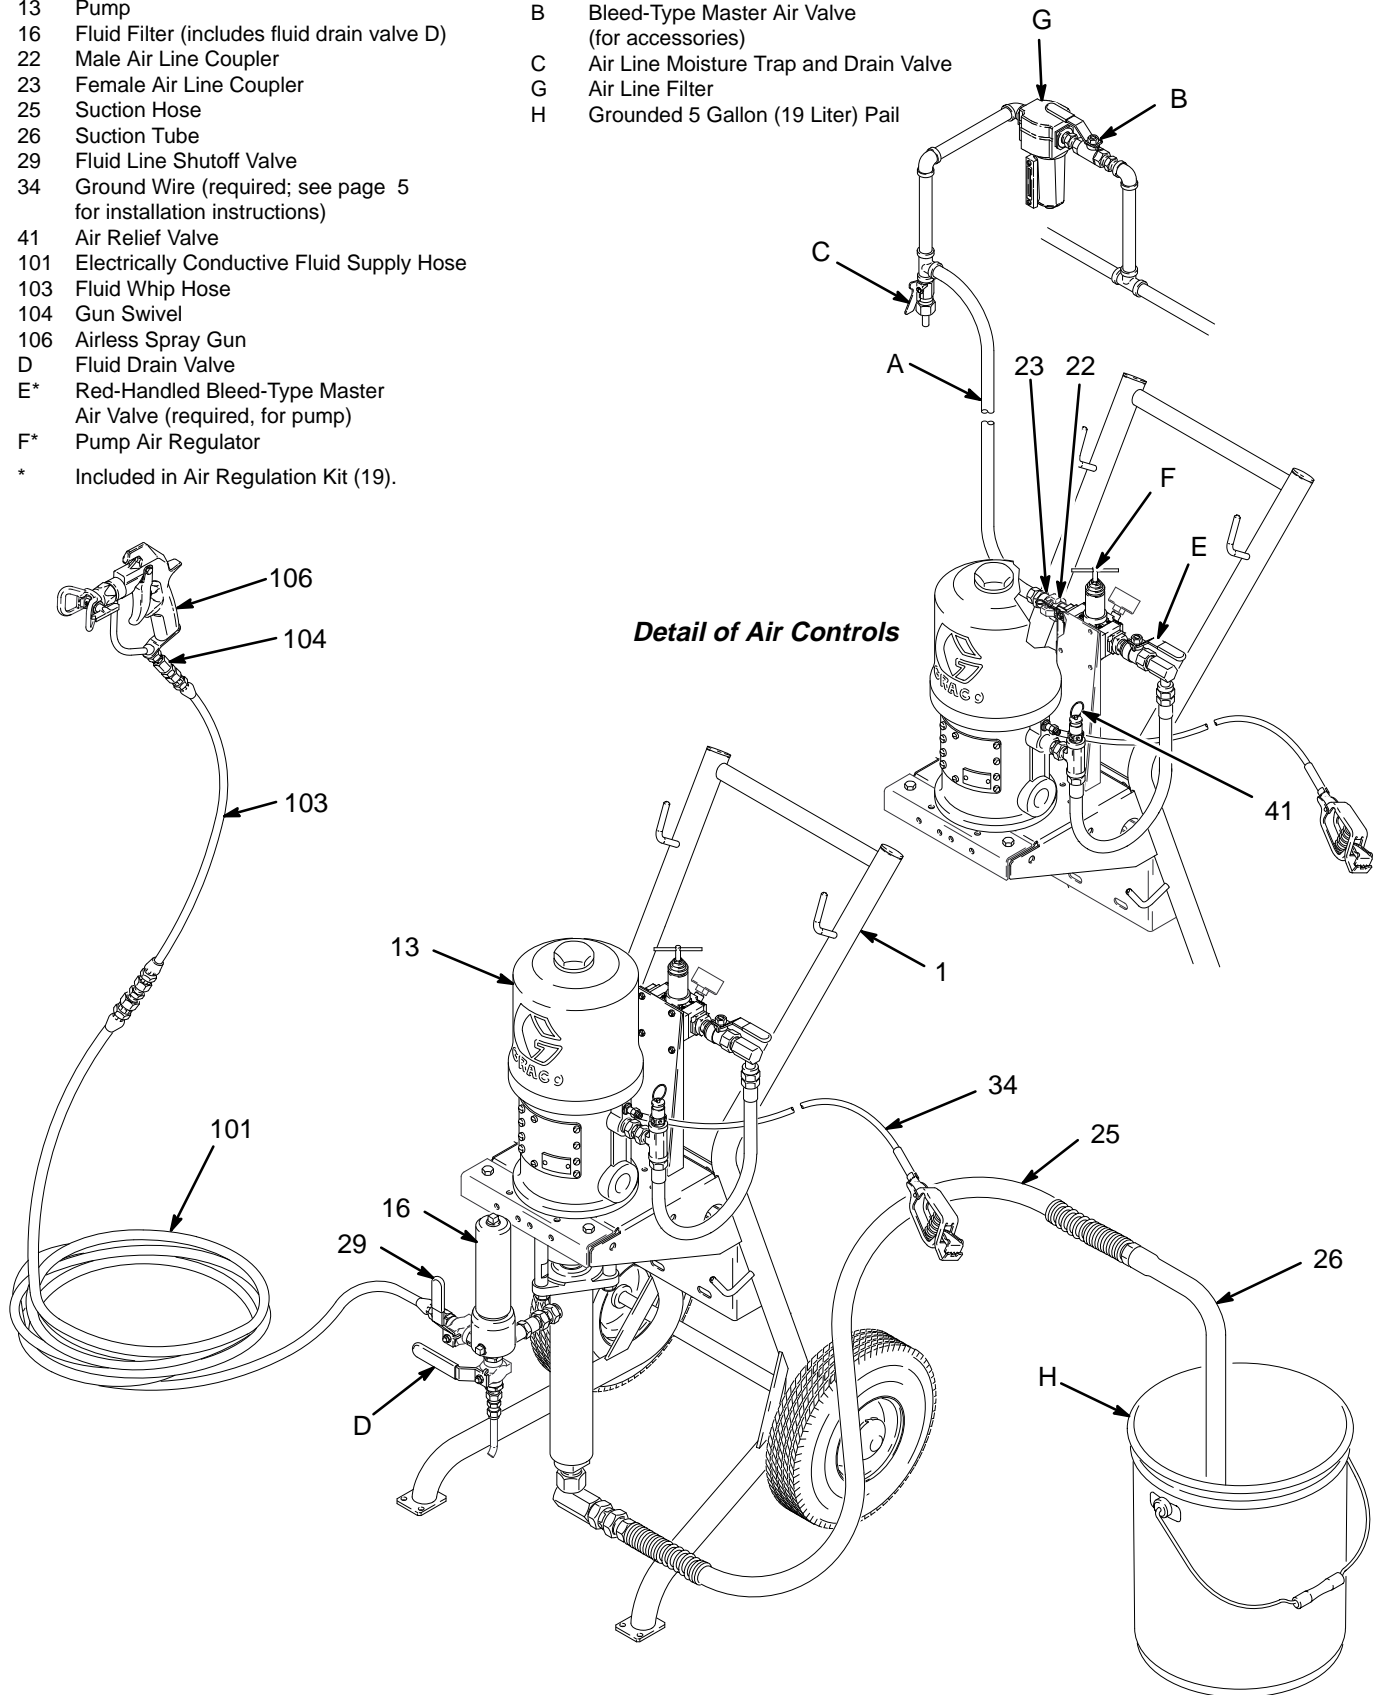

Fig. 2
Fig. 2 is only a guide for selecting and installing system components and accessories. Contact your Graco distributor for assistance in designing a system to suit your particular needs.
Refer to Fig. 2. Bring a compressed air supply line (A) from the air compressor to the pump location. Be sure all air hoses are properly sized and pressure-rated for your system. Use only electrically conductive hoses. The air hose should have a 3/8 npt(m) thread.
Refer to Fig. 2.